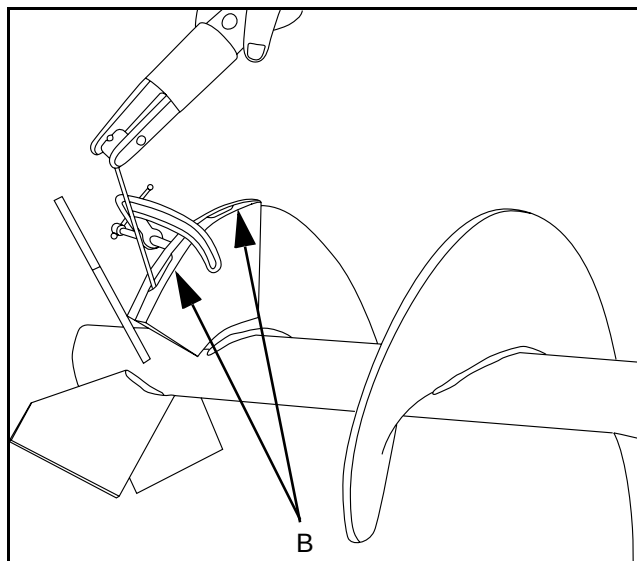

Figure 6 - 89 Installing Liners
- 6) On the first and last liners of each flight make a weld at the exposed edge for extra strength "C". (Figure 6 - 90)